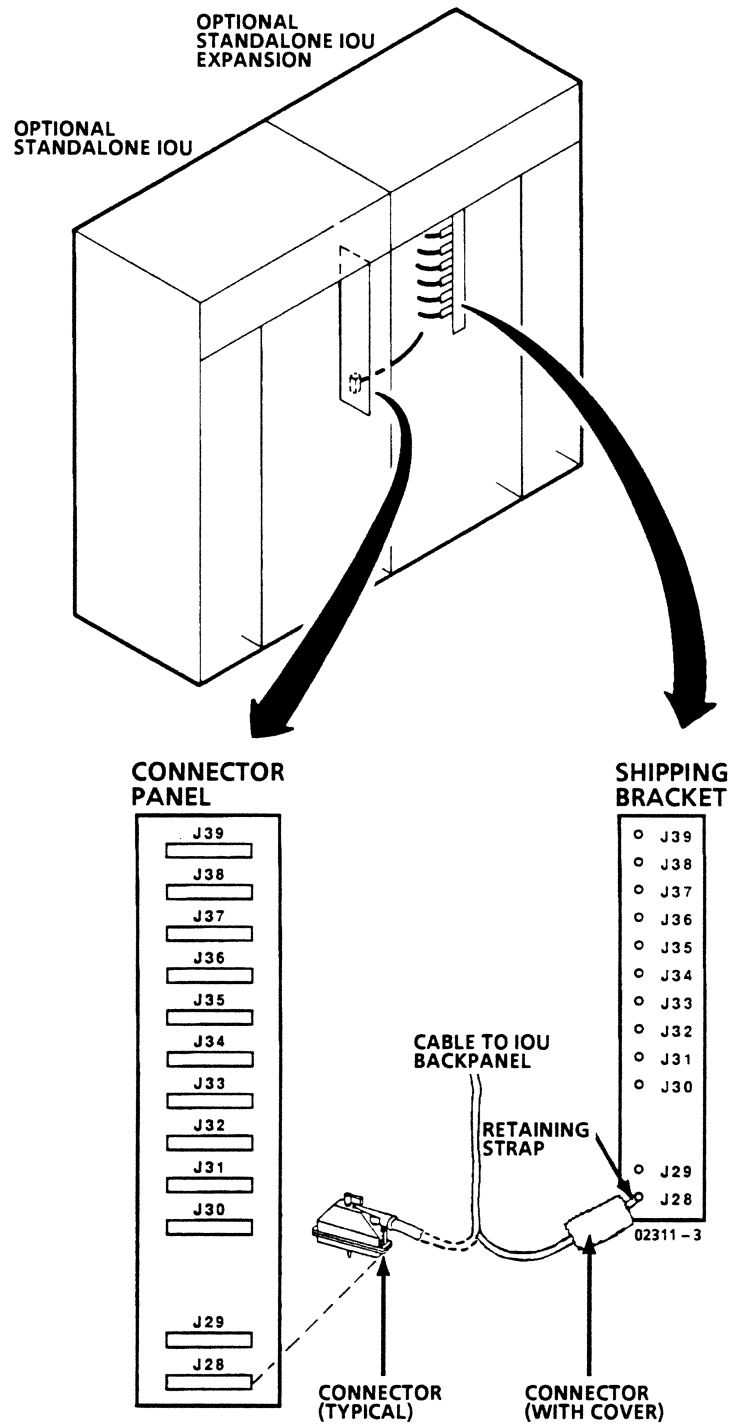

Figure 2-29. Optional Standalone IOU Expansion to Standalone IOU Cable Connections
- ___ 2. Cut shipping restraint from connector J28 and shipping bracket in standalone IOU expansion (figure 2-29).